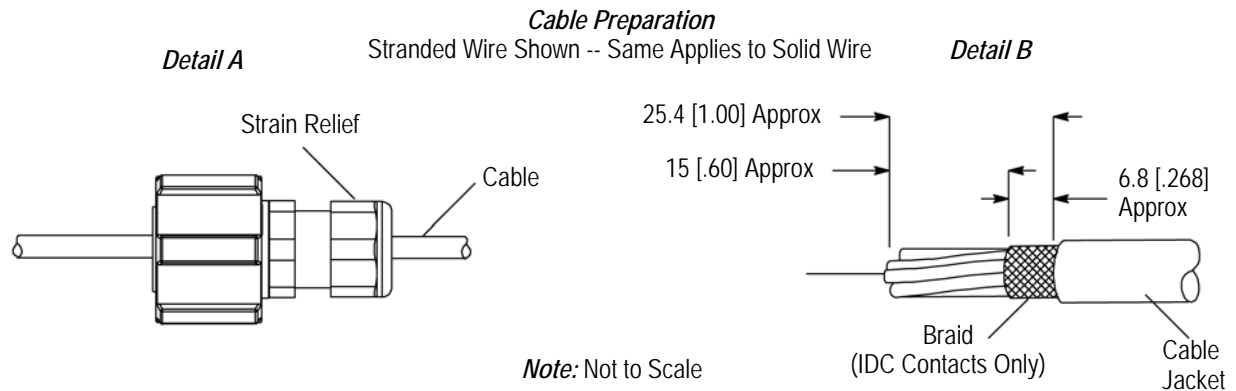

Figure 2
1. The plug assembly must be installed (strain relief end first) onto the cable. See Figure 2, Detail A.
2. Proper strip length is necessary to insert the conductors into the contact slots. The recommended strip length is given in Figure 2, Detail B.